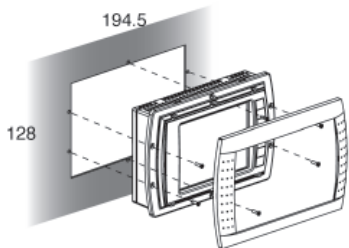

Fig. 2
- Insert the terminal, without the front frame, into the opening in the panel, and using the 6 countersunk screws supplied in the packaging, secure the device to the panel as shown in Fig. 2, then check the correct positioning of the front rubber gasket;